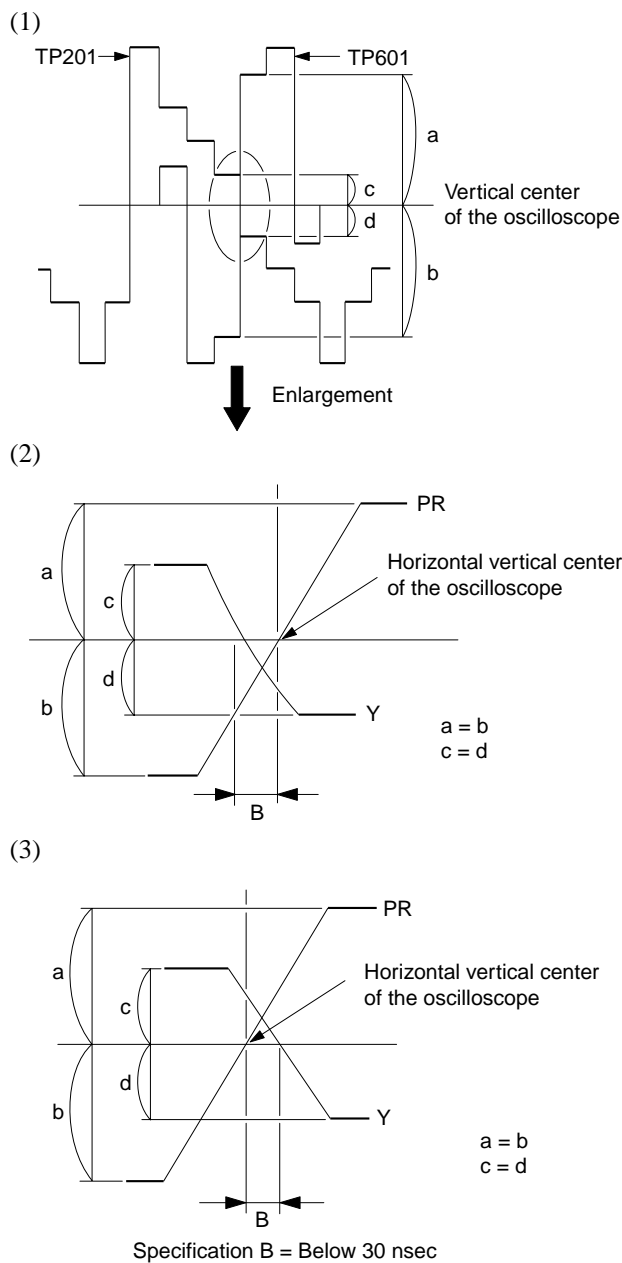

Fig. 5-5.
10. Adjust the position of the oscilloscope and coincide the TP201 and TP601 waveforms as shown in Fig.5-5 (1).
11. Set the oscilloscope to the delay mode and enlarge the border between the green and magente as shown in Fig.5-5 (2) and (3).
(If deviated to the left as shown in Fig. 5-5 (2).)
(If diviated to the right as shown in Fig. 5-5 (3).)